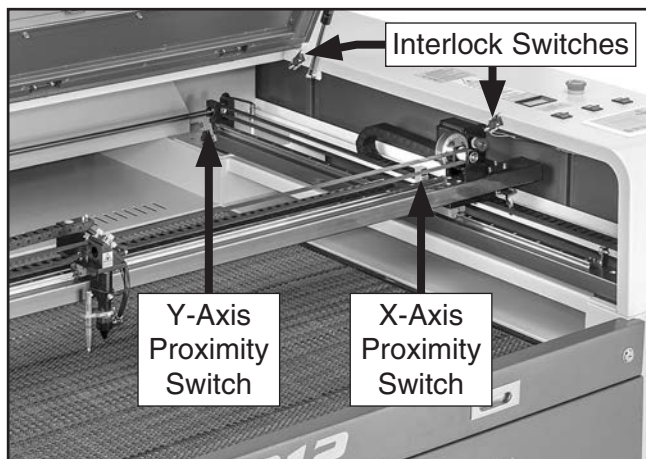

Figure 26. Location of upper safety switch components.
9. Open top loading door and locate X- and Y-axis proximity switches, and top loading door interlock switches (see **Figure 26**).